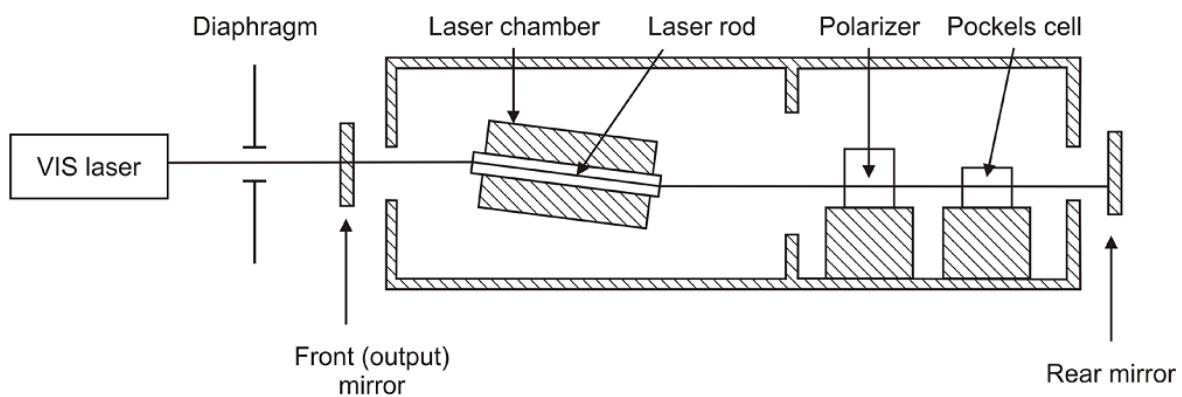

Figure 28 Beam position alignment
2. Direct an auxiliary visible (VIS) laser beam into the laser cavity through the output mirror, as shown in Figure 28.